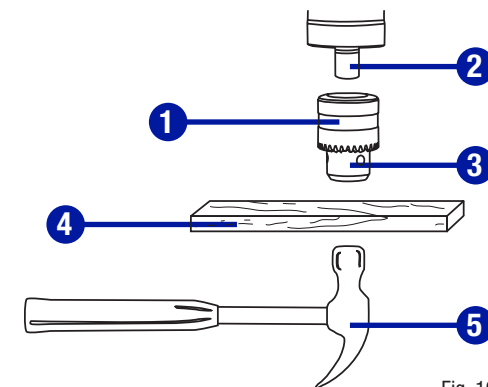

Fig. 10
**INSTALL THE CHUCK (Fig. 10)**
- Inspect and clean the taper hole in the chuck (1) and the spindle (2). Remove all grease, coatings, and particles from the chuck and spindle surfaces with a clean cloth.
- Open the chuck jaws (3) by turning the chuck barrel clockwise by hand. Make sure the jaws are completely recessed inside the chuck.
- Seat the chuck on the spindle by placing a block of wood (4) under the chuck (1) and tapping the wood with a hammer (5) or tap the chuck with a rubber mallet.